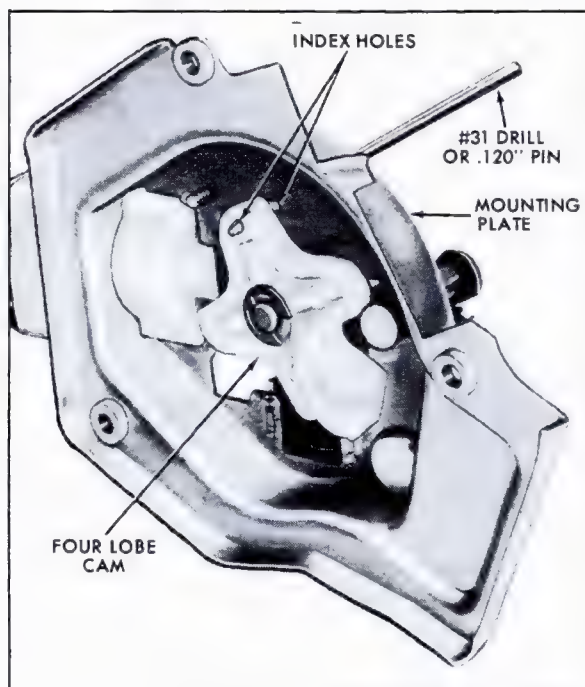

Fig. 12-25 Aligning Washer Cam
3. Align index hole in four lobe cam with index hole in cover and insert a .120" (#31) drill, or similar size pin, through mounting plate hole into index hole in four lobe cam, Fig. 12-25.